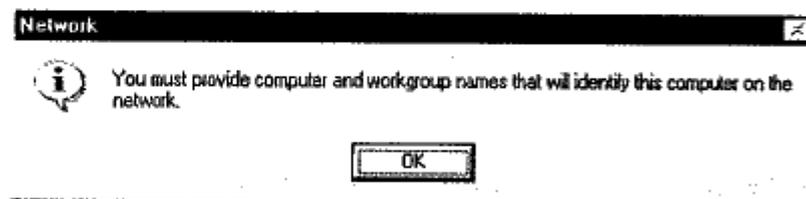

Figure 3-3
5. If it's the first time for you to setup a network on this computer, Windows will ask you to enter a computer name and workgroup name as shown in Figure 3-3.